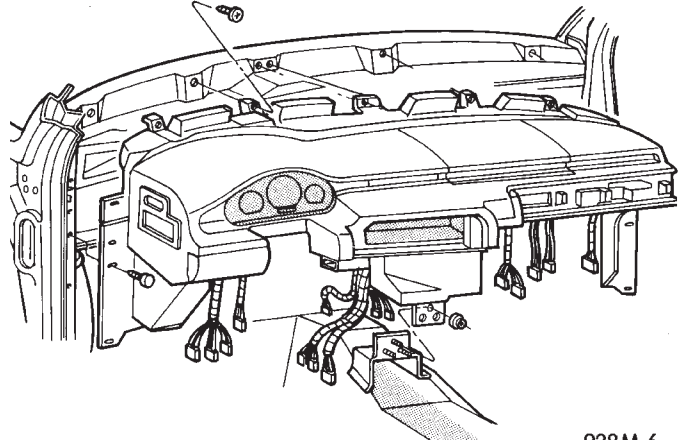

Fig. 10 Instrument Panel Removal
(9) Remove two lower steering column mounting bracket bolts. Remove the two upper mounting bracket nuts and lower column. Refer to Group 19 for Removal Procedures.
(10) Remove the instrument panel mounting screws (Fig. 10).